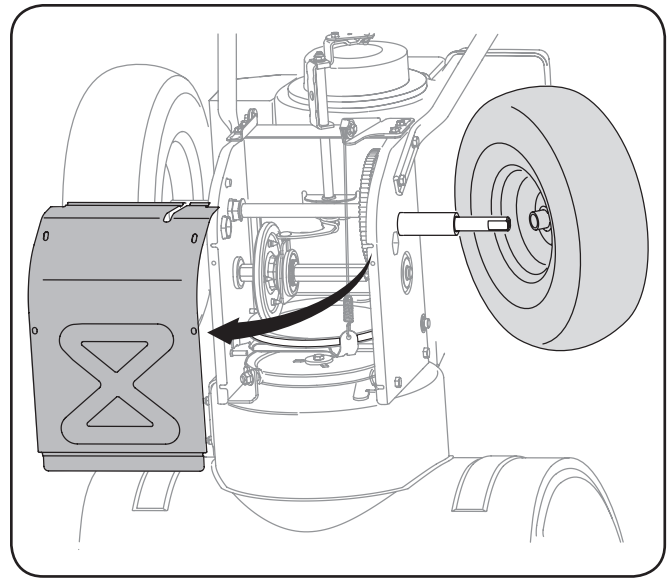

Figure 7-8
- Remove the frame cover from the underside of the snow thrower by removing the self-tapping screws which secure it. Remove the right-hand wheel by removing the screw and bell washer which secure it to the axle. See Figure 7-8.